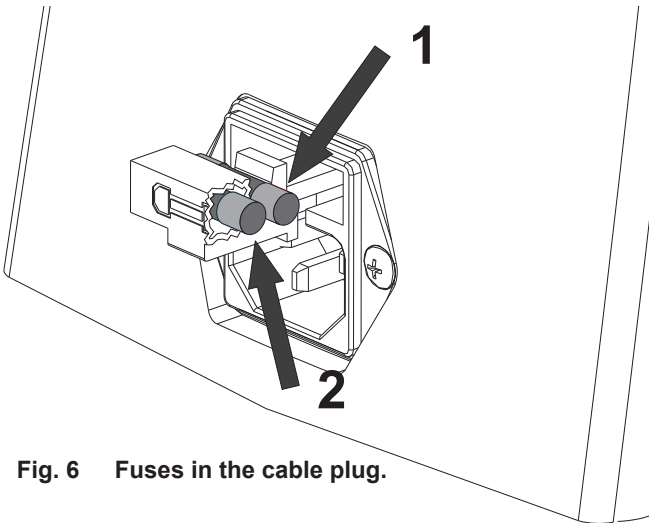

Fig. 6 Fuses in the cable plug.
- The fuse in the cable plug (fig.6, 1) has not been burned. If the fuse is defective, it can be replaced by the extra fuse (fig.6, 2) that is also available in the cable plug.